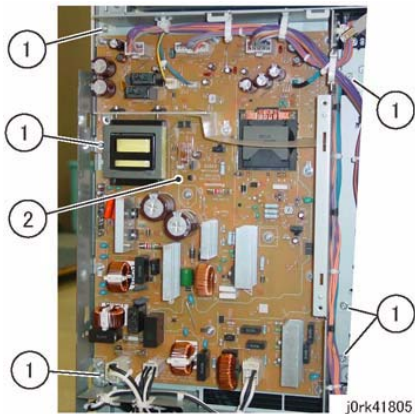

Figure 5 Main LVPS Removal
7. Remove the Main LVPS. (Figure 5)